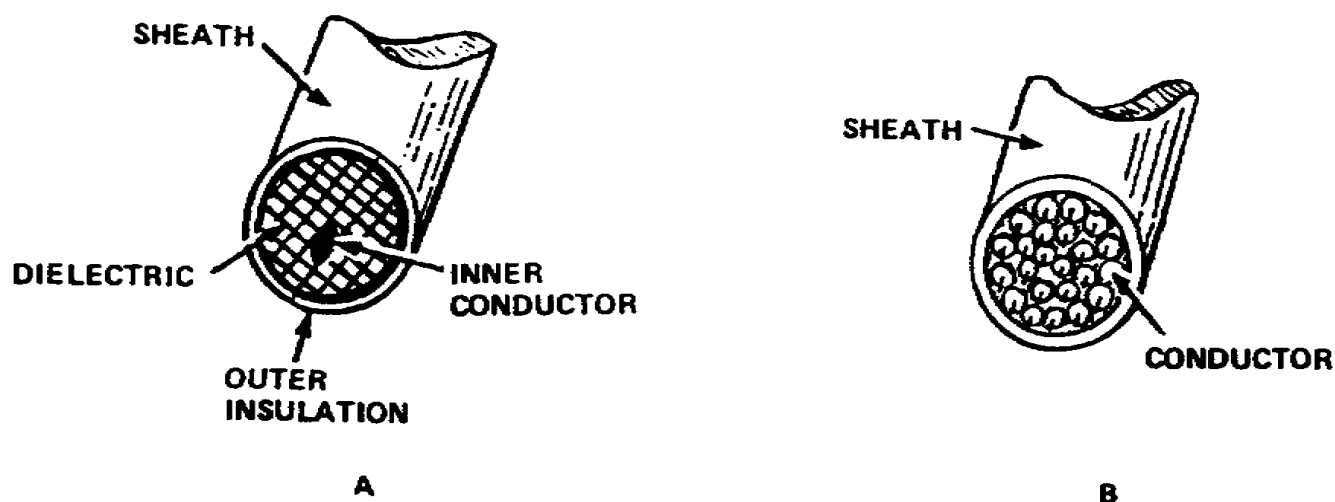

Figure 5-7. Two kinds of cable. At A, a coaxial cable with two concentric conductors. At B, a multi-conductor, unshielded cable
1. Cables and Cords. A cable is any group of electrical conductors bound together. A cable may consist of only two conductors, such as the coaxial cable familiar to RF design; or it may be made up of several individual conductors protected with its own layer of insulation (fig 5-7). Cables are widely used in electronic and communications systems. As an example, many telephone networks are completed with the use of cables, and in faraway areas, cable is the only means of television reception with the exception of satellite transmission.